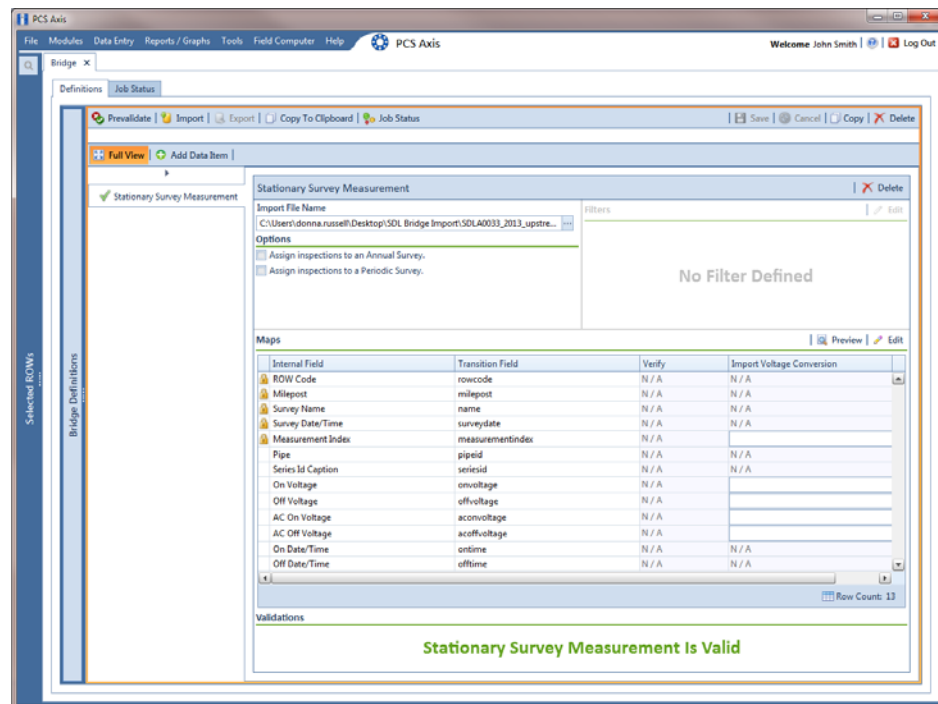

Figure 10-20. Bridge Definition
After processing files, the definition window opens. The *Maps* group box includes a list of field mappings in the columns labeled *Internal Field* (PCS Axis) and *Transition Field* (SDL survey) as shown in the following example (Figure 10-20).
- 15 To assign the SDL survey to a survey folder based on the survey date, complete one or both of the following steps in the *Options* group box as required (Figure 10-20, page 471):
- 17 To import the SDL survey in PCS Axis, click  **Import** in the *Definitions* window (Figure 10-20, page 471).